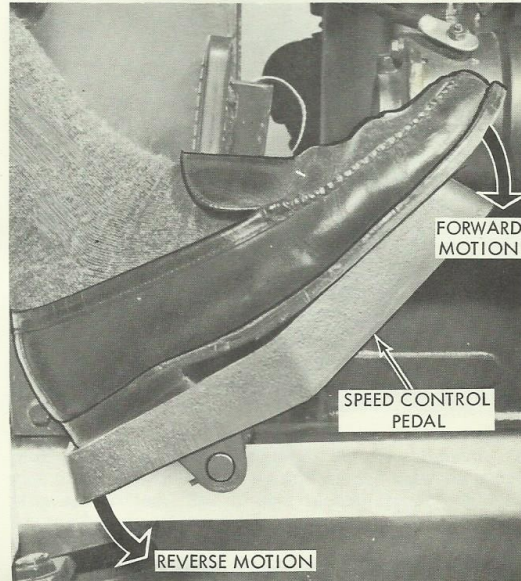

Figure 7
6. Foot Brake. Use when vehicle is being towed or free-wheeling; when moving transmission lever (12) from NEUTRAL or PARK position to DRIVE position.
7. Speed Control. Depress with toe of foot for forward motion. Depress with heel of foot for reverse motion. Provides instant braking and speed regulation. (See Figure 7.)
Release brake pedal, and slowly apply pressure to the speed control pedal with toe of right foot for forward motion, or if reverse motion is desired, slowly apply pressure to speed control pedal with heel of right foot. (See Figure 7.)